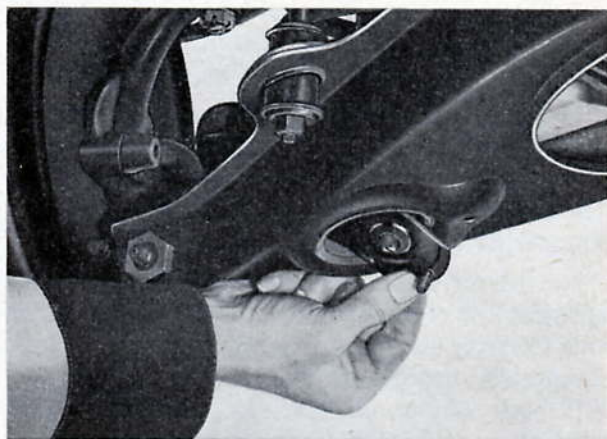

Fig. K.12. Removing the shock absorber inner retaining plate
4. Contract the shock absorber to allow the upper retainer plate to be withdrawn. The plate must be tilted before it can be removed (Fig. K.12).